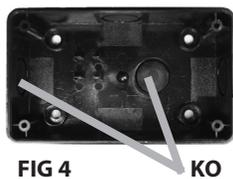

FIG 4
Ensure the wires can easily enter the connection box through either the knock-out (KO) at the back of the connection box, or through those at the sides (Fig. 4)